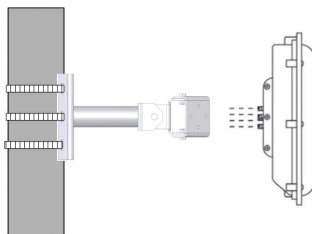

Figure 1.5 – Attaching the Sensor to the Mount Bracket
- 3** Thread on the nuts and tighten (see Figure 1.5).